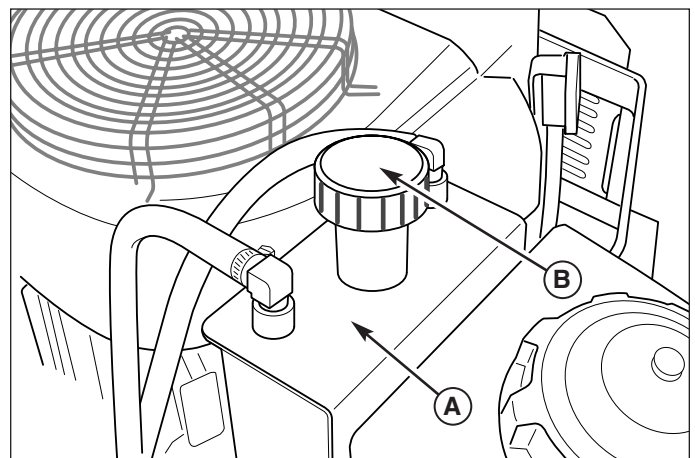

Figure 11. Checking Hydraulic Oil Level
2. Unscrew the reservoir cap (B, Figure 11).
3. Look down the filler neck of the hydraulic oil reservoir (A, Figure 11) and observe the oil level. When cold, the oil level should be level the baffle inside the reservoir (steel tank) or approximately 1/2" (1,2cm) below the "FULL HOT" line (plastic tank).